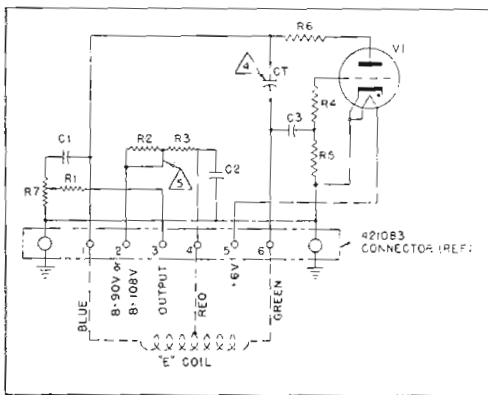

Fig. 10: Inductance controlled oscillator
Several pressure pickups are shown at positions (F), (I), (K), and (L) on Fig. 3, while the E coil may be seen separately at position (G). The compact inductance oscillator is shown in one view at (M) on Fig. 1 and in the reverse view at (H) on Fig. 4. The circuit diagram of the oscillator is given on Fig. 10. It should be noted that commutation of inductance pickups to a single oscillator presents certain problems related to transient effects, especially when one of the switched wires carries B+ as is the case with the present Hartley oscillator inductance. This problem is one of the arguments in favour of the dc type of pickup.